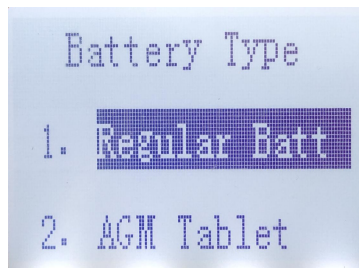

Figure 3
(3) Press the OK key to enter the battery startup ability test. According to the battery type under test, press the triangle up or down key to select the corresponding test type, as shown in Figure 3: